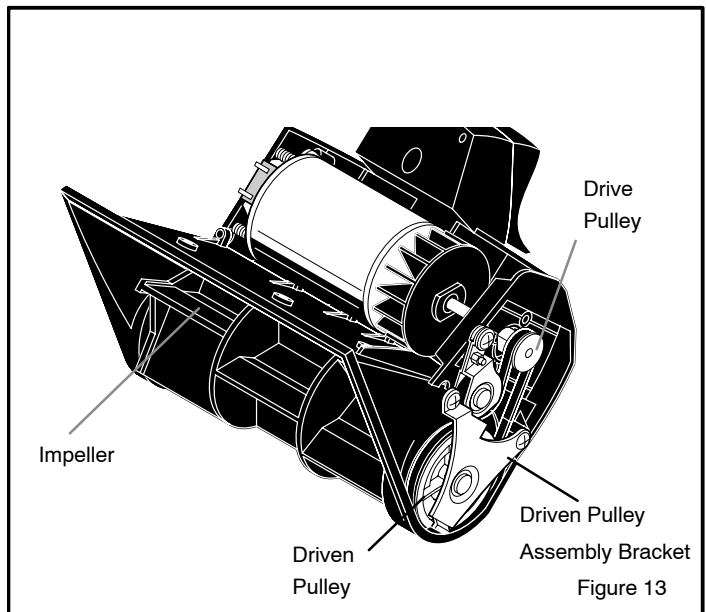

Figure 13
- Install new belt around driven pulley and around drive pulley. Figure 13.
- Position belt on the inside of idler pulley as shown in Figure 13.
- Replace driven pulley assembly bracket and driven pulley at the same time. Figure 13.
- Secure bracket with two (2) screws. Figure 13.